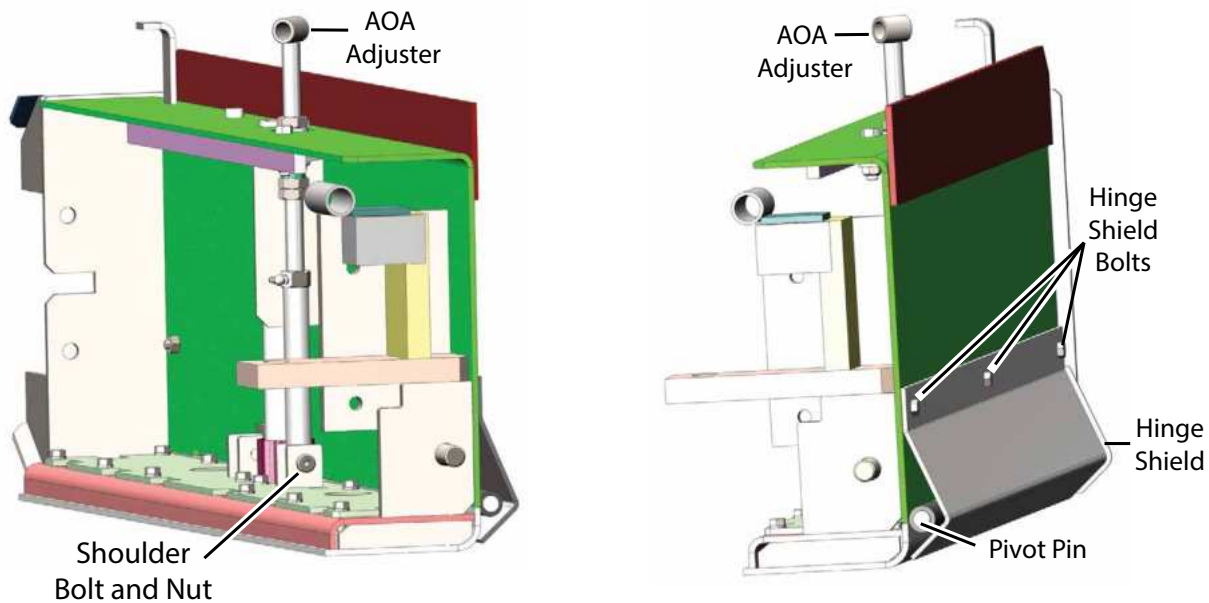

Figure 5-40. Wear Plate Replacement
3. Disconnect the extension AOA adjuster (**Figure 5-40**) on top of the wear plate by removing locknut, washer and shoulder bolt.